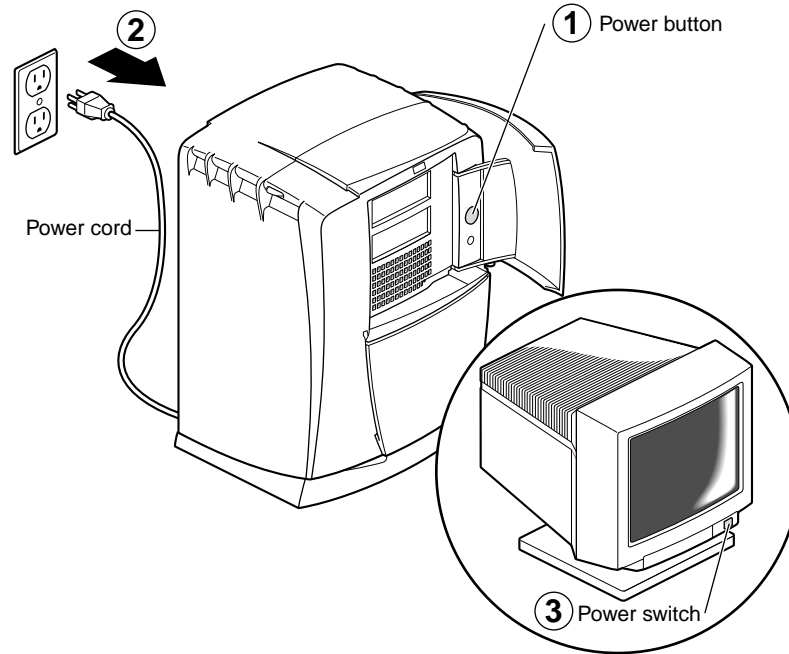

Figure 1-2 Powering Off the Octane2 Workstation
1. Open the cover and push the power button once to power off the Octane2 workstation (see Figure 1-2).